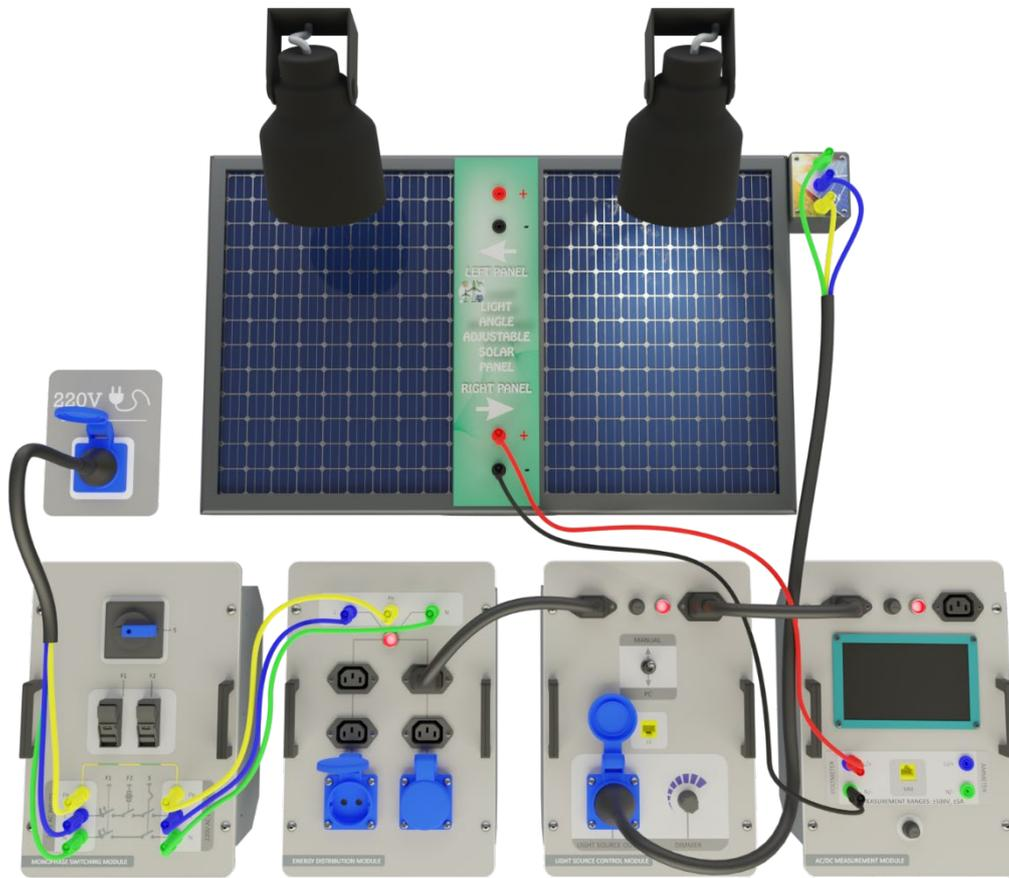

Figure-32. Installation Image of PV Panel Open Circuit Voltage Measurement Experiment
2. Set up the connection as specified in Figure-32. Ensure a constant level of light in the laboratory by creating an average scenario. Any alterations to the positions of the lamps or curtains will have an impact on the experimental outcomes.